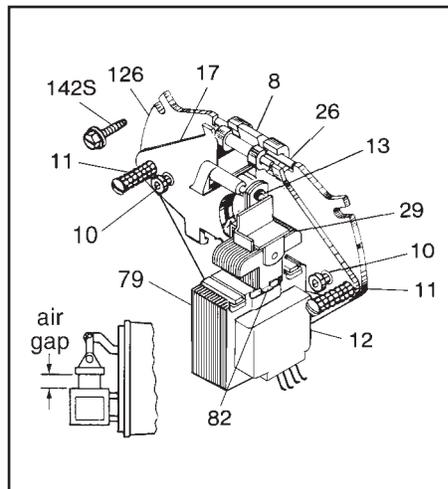

Figure 7
**Note 2:** Both torque adjustment screws (11), Figure 7, must be turned equal amounts counterclockwise to decrease torque. Housing must be removed to adjust torque.
1. Manually lift solenoid plunger to maximum travel. Depress and allow solenoid plunger to snap out several times. Measure solenoid air gap between mating ground surfaces of solenoid frame and solenoid plunger. See Figure 7. (On vertically mounted brakes, it will be necessary to push solenoid plunger into solenoid frame to the point where spring pressure is felt, before measuring solenoid air gap.) As friction disc wear occurs the air gap will increase, as well as stopping time. If solenoid air gap exceeds 11/16", adjustment is necessary.
2. The solenoid air gap may be decreased by turning both wear adjustment screws (10) equal amounts clockwise, approximately 1/8 turn, until solenoid gap is attained. Counterclockwise rotation will increase gap.